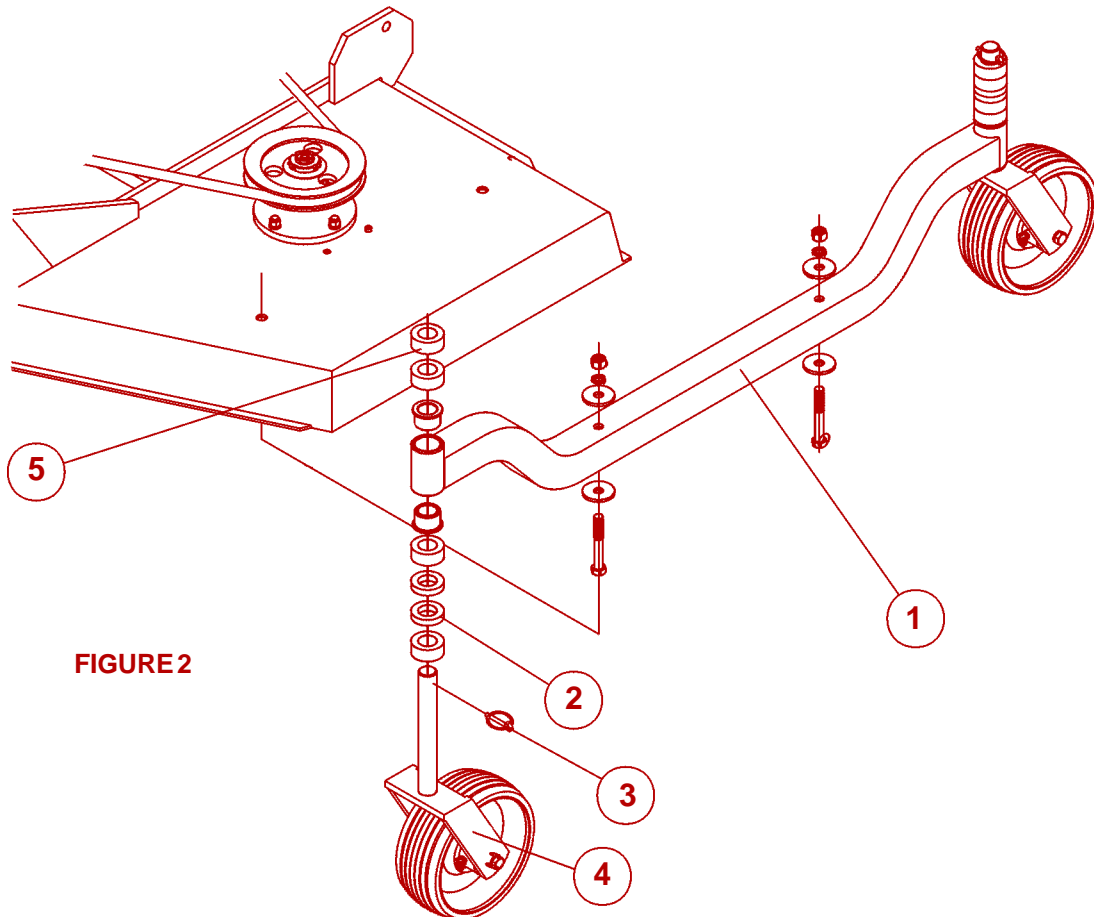

FIGURE 2
Axle arm (1) comes attached to deck weldment. Install caster fork assemblies by installing spacers (2) onto fork shaft (4) and inserting into tube with bushings on each end of axle arm (1). Place spacers (5) on top of tube and retain using pin (3). See **Figure 2**.